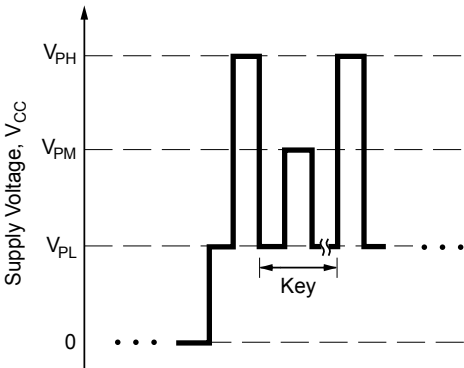
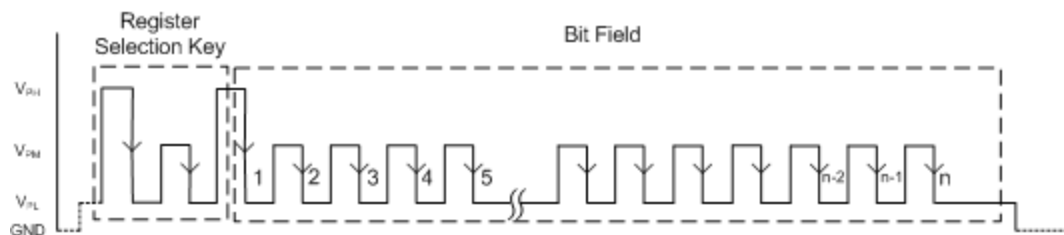

Figure 5. Register selection pulse sequence
Figure 11. Example of Try mode pulse sequence, Register Key = B_{OP} selection down counting
Register Selection Each programmable parameter can be accessed through a specific register. To select a register, a sequence of voltage pulses consisting of a V_{PH} pulse, a series of V_{PM} pulses, and a V_{PH} pulse (with no V_{CC} supply interruptions) must be applied serially to the VCC pin. The quantity of V_{PM} pulses is called the *key*, and uniquely identifies each register. The pulses for selection of register key 1, is shown in figure 5. No V_{PM} pulse is sent for key 0. The register selections are shown in table 2.
When setting the B_{OP} Trim parameter, as an aid to programming, values can be traversed from low to high, or from high to low. To accommodate this direction selection, the value of the bit field (and code) defaults to the value 1, on the falling edge of the final register selection V_{PH} pulse (see figure 5). A complete example is provided in figure 11.